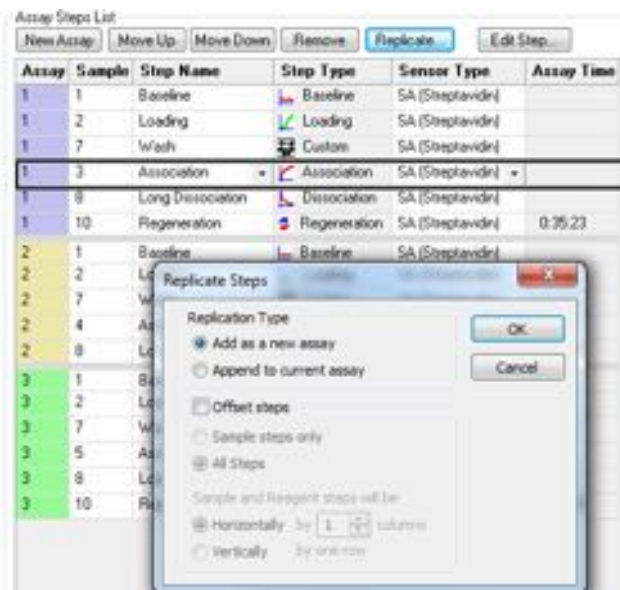

Figure 9-41: Adding a Replicate Assay to a Plate
2. In the **Replicate Steps** dialog box, click the **Add as a new assay** option (Figure 9-41).